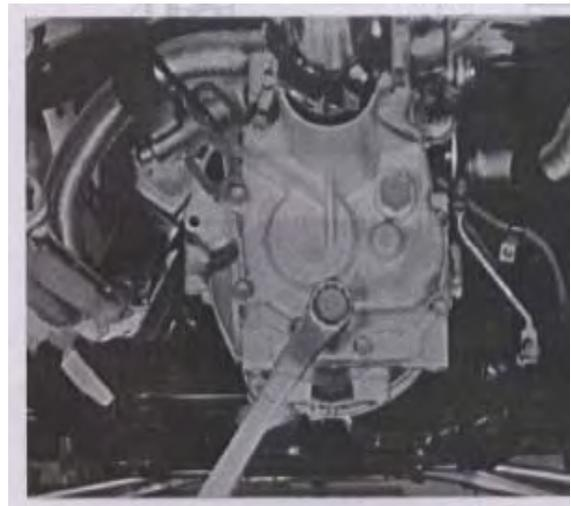

Fig 10-4
- (7) Remove drain plug to drain oil in transmission. (FIG.10-4)